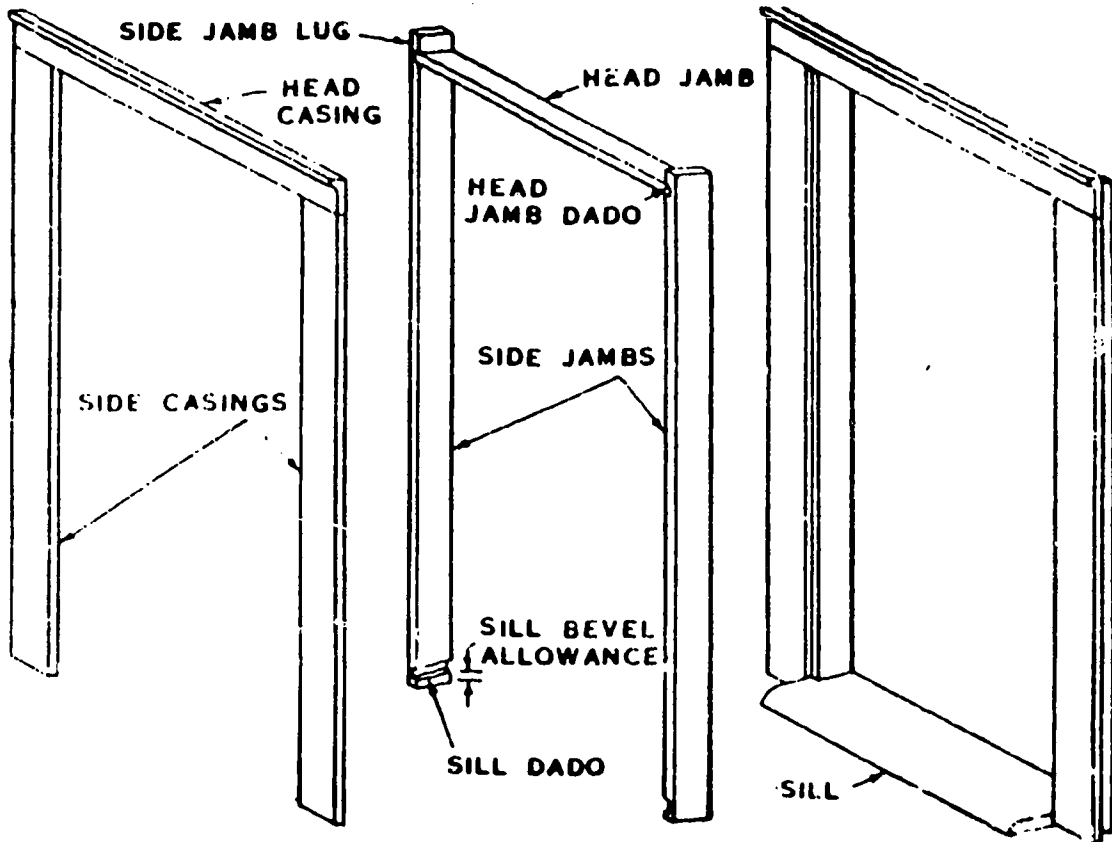

Figure 21. Principle Parts of a Door Frame
Door frames can be purchased commercially as units, or you may build them in the local carpentry shop. Purchased frames may come assembled and ready for installation, or they may come in knocked down (KD) bundles that you put together on the job. Although all door frames include certain parts, the details of each part can vary. Exterior door frames are made up of two side jambs, a head jamb, an outside casing, and a sill, as shown in Figure 21. The drip cap and inside casing are sometimes included as parts of the door frame. These parts are precision cut, dadoed and carefully put together to make a complete door frame.